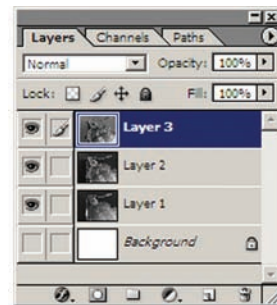

Figure 3. Layers window
- In the *Layers* window (Figure 3) click on the Eye icon next to the line *Background* to make the background invisible.